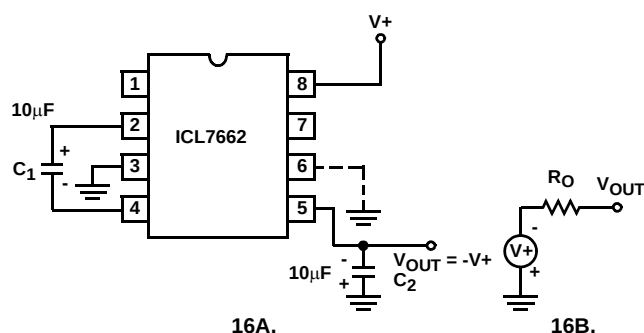

FIGURE 16. SIMPLE NEGATIVE CONVERTER AND ITS OUTPUT EQUIVALENT
The majority of applications will undoubtedly utilize the ICL7662 for generation of negative supply voltages. Figure 16 shows typical connections to provide a negative supply where a positive supply of +4.5V to 20.0V is available. Keep in mind that pin 6 (LV) is tied to the supply negative (GND) for supply voltages below 10V.
ESR also affects the ripple voltage seen at the output. The total ripple is determined by 2V, A and B, as shown in Figure 16. Segment A is the voltage drop across the ESR of C_2 at the instant it goes from being charged by C_1 (current flowing into C_2) to being discharged through the load (current flowing out of C_2). The magnitude of this current change is $2 \times I_{OUT}$, hence the total drop is $2 \times I_{OUT} \times ESR_{C_2}V$. Segment B is the voltage change across C_2 during time t_2 , the half of the cycle when C_2 supplies current the load. The drop at B is $I_{OUT} \times t_2 / C_2 V$. The peak-to-peak ripple voltage is the sum of these voltage drops:
Figure 23 combines the functions shown in Figure 16 and Figure 22 to provide negative voltage conversion and positive voltage doubling simultaneously. This approach would be, for example, suitable for generating +9V and -5V from an existing +5V supply. In this instance capacitors C_1 and C_3 perform the pump and reservoir functions respectively for the generation of the negative voltage, while capacitors C_2 and C_4 are pump and reservoir respectively for the doubled positive voltage. There is a penalty in this configuration which combines both functions, however, in that the source impedances of the generated supplies will be somewhat higher due to the finite impedance of the common charge pump driver at pin 2 of the device.